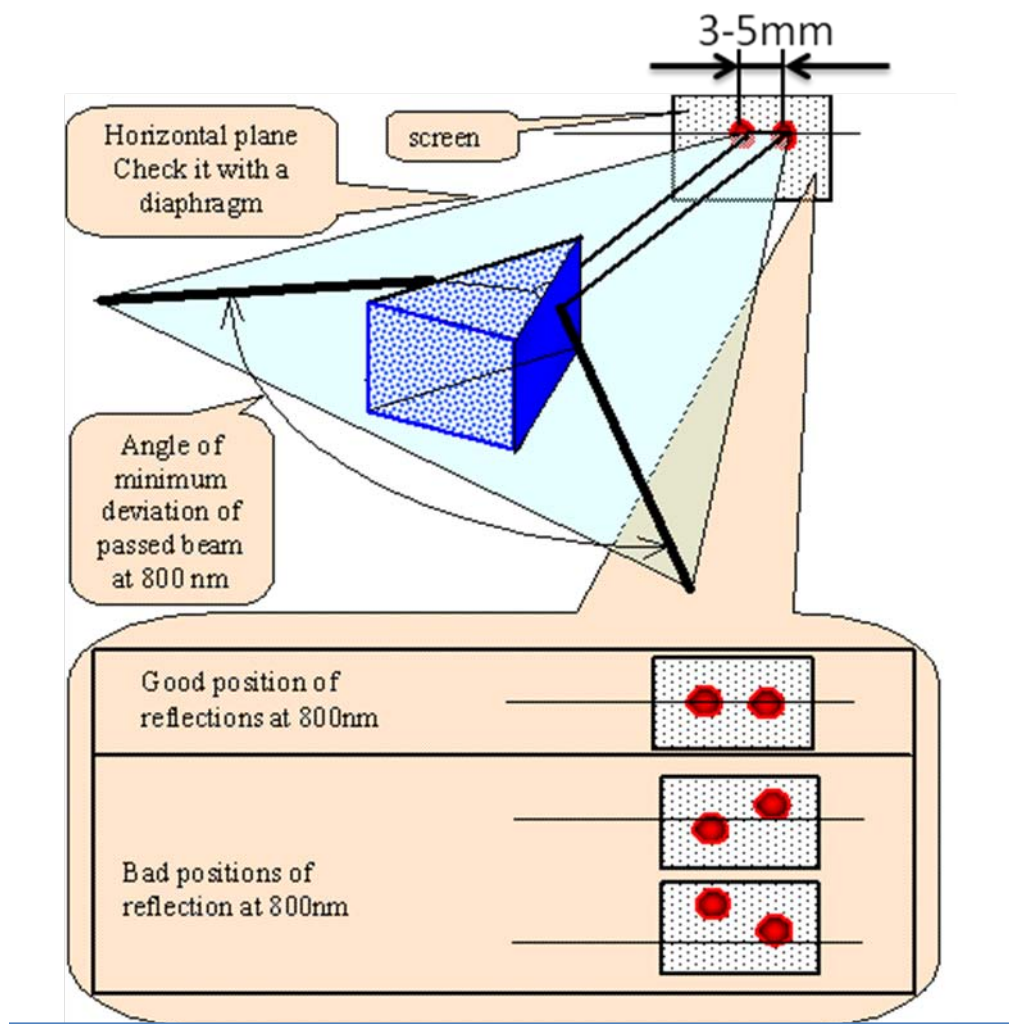

Fig. 14 Prisms P1 (P2) alignment.
- *Rotating the prism's base plate adjust prism for minimal deviation of the beam (**Fig. 14**).*
1. The spot on the M1 mirror should look like described in item 43. If not align M9 and OC.
2. There are beams reflected from the apex of each prism. The beams must be in cavity plane (the same plane above the breadboard of the laser head, refer to **Fig. 14**). If not then align the prisms and M9, OC to fix it.
3. It's recommended to keep the distance between the beams reflected off the prisms' (P1 и P2) surfaces around 3-5 mm (refer to **Fig. 14**)